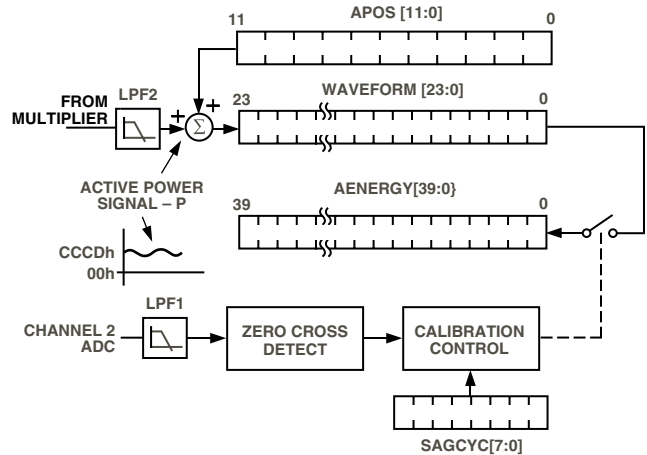

Figure 34. Energy Calculation in Calibration Mode
As mentioned in the last section, the discrete time sample period (T) for the accumulation register is $1.1 \mu s$ ($4/CLKIN$). With full-scale sinusoidal signals on the analog inputs and the Active Power Gain register set to 000h, the average word value from LPF2 is CCCDh—see Figure 34. The maximum value that can be stored in the Active Energy register before it overflows is 2^{39} or 7F, FFFF, FFFFh. Therefore the integration time under these conditions is calculated as follows:
By using the on-chip zero-crossing detection on Channel 2 the energy calibration can be greatly simplified and the time required to calibrate the meter can be significantly reduced. To use the zero-cross detection the ADE7756 is placed in calibration mode by setting Bit 7 (CMODE) in the Mode register. In Calibration Mode the ADE7756 accumulates the Active Power signal in the Active Energy register for an integral number of half cycles, as shown in Figure 34. The number of half-line cycles is specified in the SAGCYC register. The ADE7756 can accumulate Active Power for up to 255 half-cycles. Because the Active Power is integrated on an integral number of line cycles, the sinusoidal component is reduced to zero. This eliminates any ripple in the energy calculation. Energy is calculated more accurately and in a shorter time because integration period can be shortened. At the end of an energy calibration cycle the SAG flag in the Interrupt Status register is set; this will cause the SAG output to go active low. If the SAG enable bit in the Interrupt Enable register is enabled, the $\overline{\text{IRQ}}$ output will also go active low. Thus the $\overline{\text{IRQ}}$ line can be used to signal the end of a calibration also. Another calibration cycle will start as long as the CMODE bit in the Mode register is set. Note that the result of the first calibration is invalid and must be ignored. The result of all subsequent calibration cycles is correct.